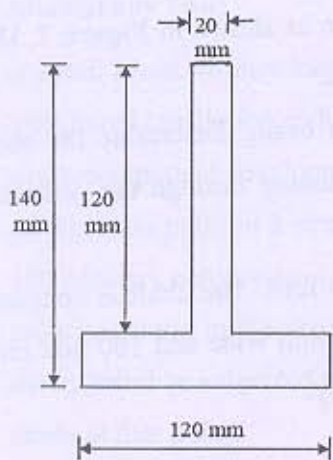

Figure 2
- (c) A beam in the form of cross is shown in Figure 2 is subjected to shear force of 25 kN. Draw the shear stress distribution diagram. [06]